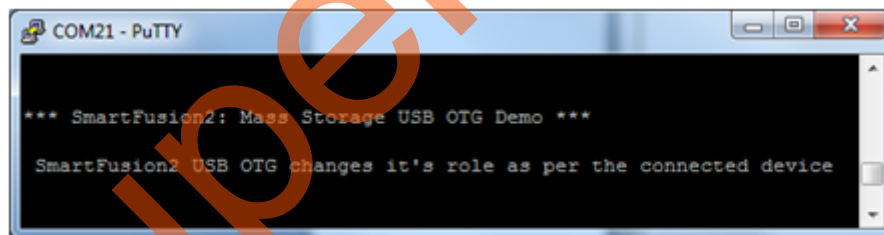

Figure 8 • UART Message
- After successfully programming the SmartFusion2 device using FlashPro, the serial terminal emulation program shows the initialization messages, as shown in Figure 8. The SmartFusion2 USB OTG controller is now set to perform the USB OTG functionality.